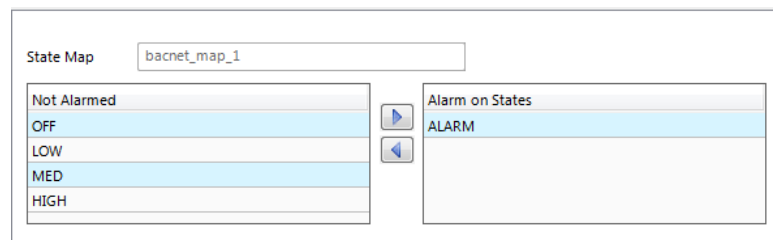

Figure 185: Alarm Condition for a Multi-State Data Point.
13. For a multi-state data point define the alarm values in the alarm condition as shown in Figure 185. Select the states in the list **Not Alarmed** and move them to **Alarm on States** by clicking the arrow buttons.